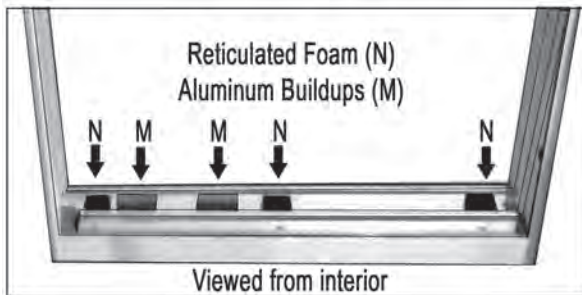

Fig. 6
- 1) Place reticulated foam (N) in front of 3 weeps that are punched in center leg of frame. (Fig. 6)
- 2) Place fixed Panel Builds (M) beside reticulated foam in fixed Panel side of outside track. (Fig. 6)